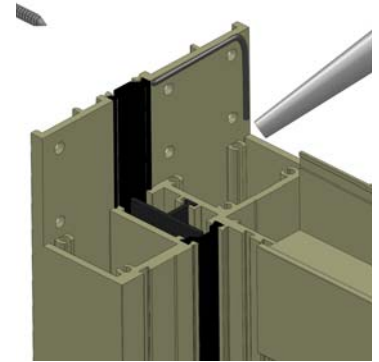

Figure 11
2. Seal frame and vent joints completely with compatible sealant. **IMPORTANT:** Apply a heavy bead of sealant to the interior side of the mounting flange (nail-on) where the door frame jamb and sill join. Sealant must cover the entire joint (from the flange to the inside leg of the door) and extend 1 1/2" up the jamb and along the sill. (See Fig. 11).